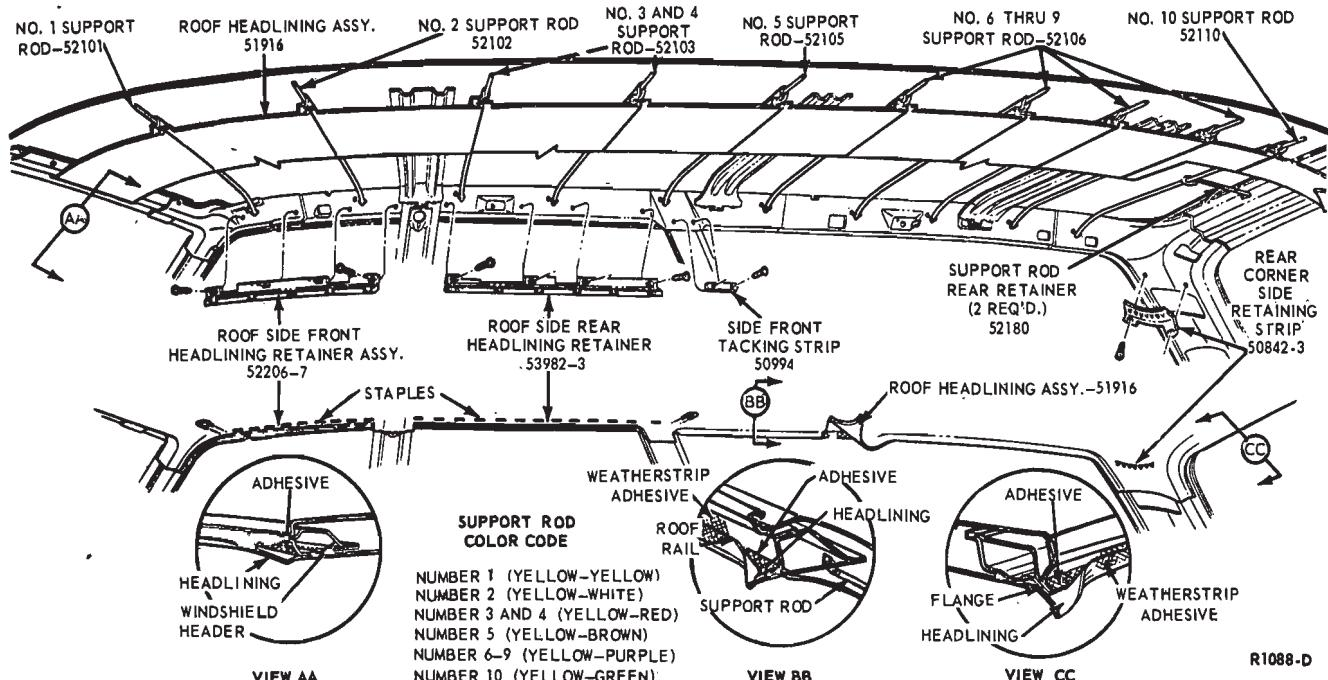

FIG. 1—Typical Station Wagon Headlining Installation—Ford, Meteor and Mercury Shown
9. Remove the right and left tacking strips (two screws each, Fig. 1).
16. Remove the staples that fasten the headlining to the retainer assemblies above each door opening (Fig. 1).
21. Unhook the support rod rear retainers from the rear headlining support rod, disengage all ten support rods from the holes in the right and left roof rails, and remove the headlining from the vehicle (Fig. 1).